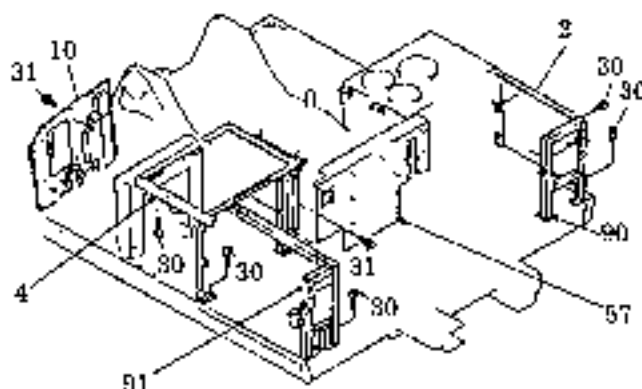

Fig. 29 Guard assy and brackets
- (10) Remove bracket (91) (See Fig. 29.)